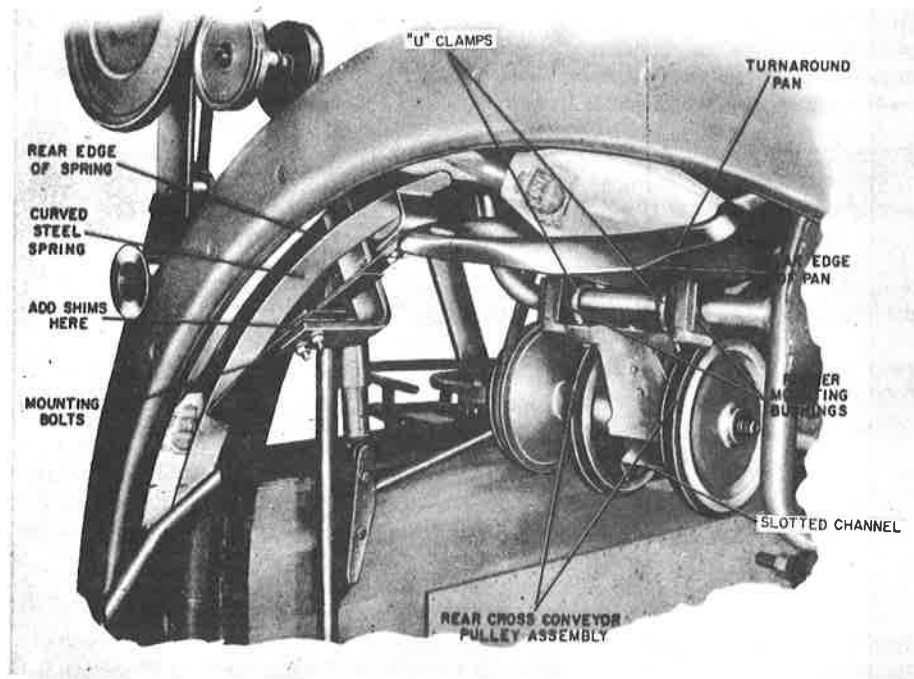

Figure 85. Pin Guide Adjustment
30. PIN GUIDE ASSEMBLY ADJUSTMENT. (FIGURE 85)
31. TURNAROUND PAN ADJUSTMENT. (FIGURE 85)
32. CROSS CONVEYOR BELT ADJUSTMENT. (FIGURE 85)